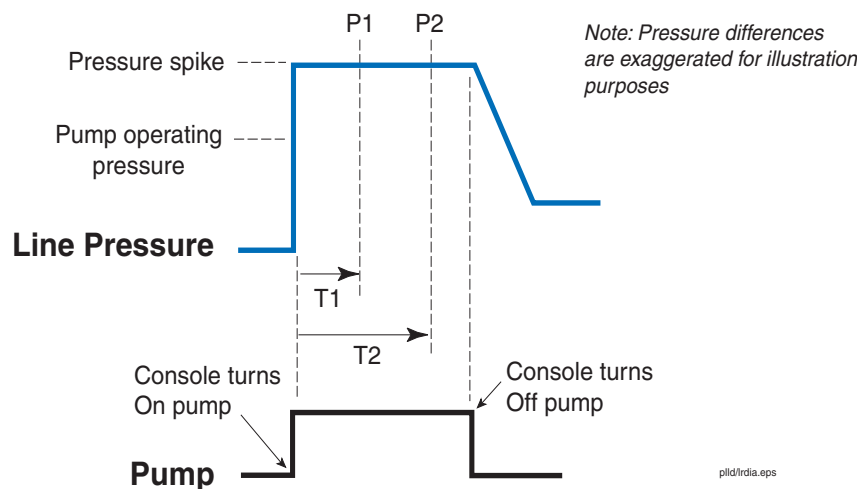

Figure 6. Leak Rate Calculation
When the pump is turned On a pressure spike is trapped in the line (Figure 6). After a waiting time T1, the reference pressure P1 is measured. After waiting time T2, pressure P2 is measured. A leak rate (LR) is calculated using the values T1, T2, P1, and P2.